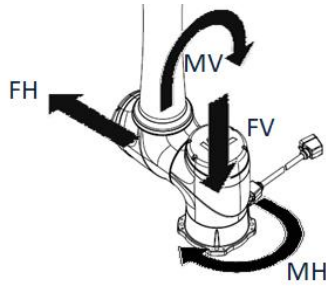

Figure 18: Description of TM Robot's moments and directions
2. Depending on the model type, the robot generates different levels of reaction force at different conditions to the mounting surface and screws. Please refer to **Figure 18** and **Table 6** to design a mounting surface tailored to the operation of your robot.